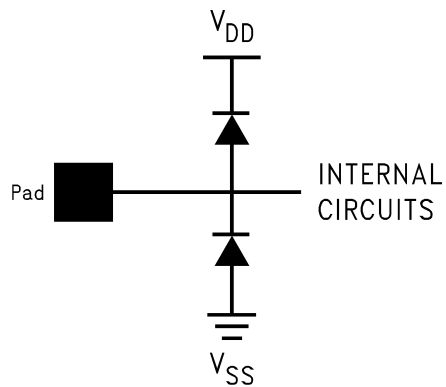

Figure 3.
- (1) The analog inputs are protected as shown below (see Figure 3). Input voltage magnitude up to 500 mV beyond the supply rails will not damage this device. However, input errors will be generated if the input goes above  $AV+$  and below  $AGND$ .
- (2) Test limits are ensured to AOQL (Averaging Outgoing Quality Level).
- (3) Typical figures are at  $T_J = 25^\circ C$ , and represent most likely parametric norms.
- (1) The analog inputs are protected as shown below (see Figure 3). Input voltage magnitude up to 500 mV beyond the supply rails will not damage this device. However, input errors will be generated if the input goes above AV+ and below AGND.
- (4)  $20 \log_{10}(V_{IN}/RMS \text{ Output Noise})$